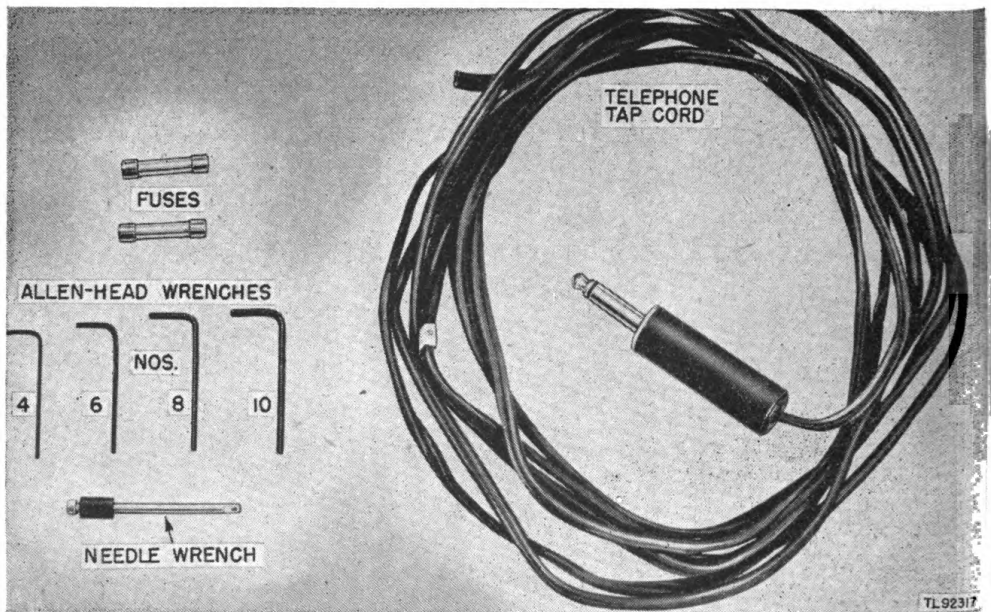

Figure 7. Telephone tap cord and tools.
f. TELEPHONE TAP CORD (fig. 7). A telephone tap cord is supplied in a 12-foot length. It is a rubber-covered, two-wire conductor, one end of which is attached to a phone type plug.
h. TOOLS (fig. 7). Contained inside an envelope packed with the equipment are four Allen wrenches sizes 4, 6, 8, and 10. Included also are two 5-ampere, 110-volt fuses and one needle wrench.